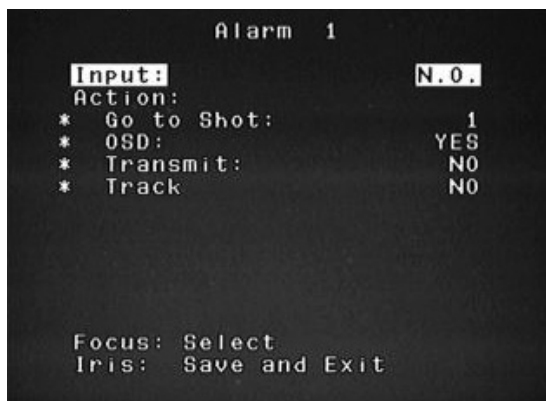

Figure 7A Input Setup Menu
There are four (4) Alarm Inputs that may be activated by a dry contact input closure. The alarm conditions must be present for greater than 200 ms to be recognized as a valid alarm. Each alarm input may be individually programmed for the type and desired Action to occur when an alarm is received (as shown in FIGURE 7A). The choices available are listed in FIGURE 12F in the back of this manual, and are explained in the Advanced Menu, SECTION 12.